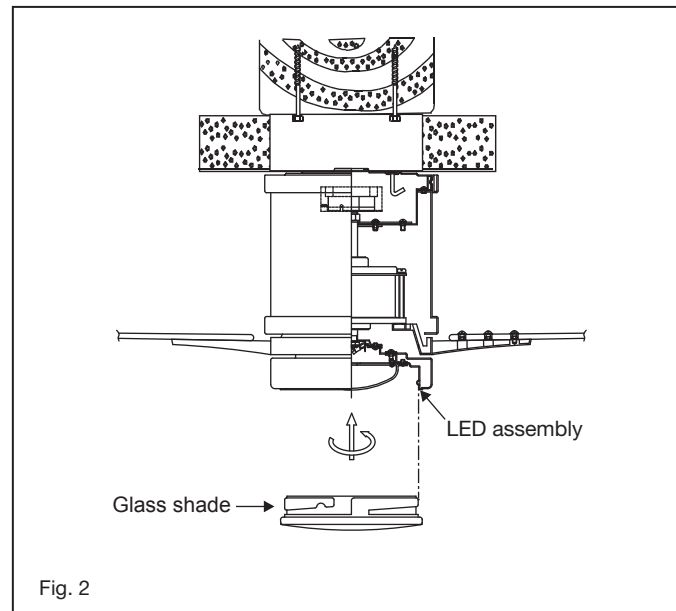

Fig. 2
- 2 While holding the LED assembly under your fan, make the polarize plug connections: (Fig. 2)